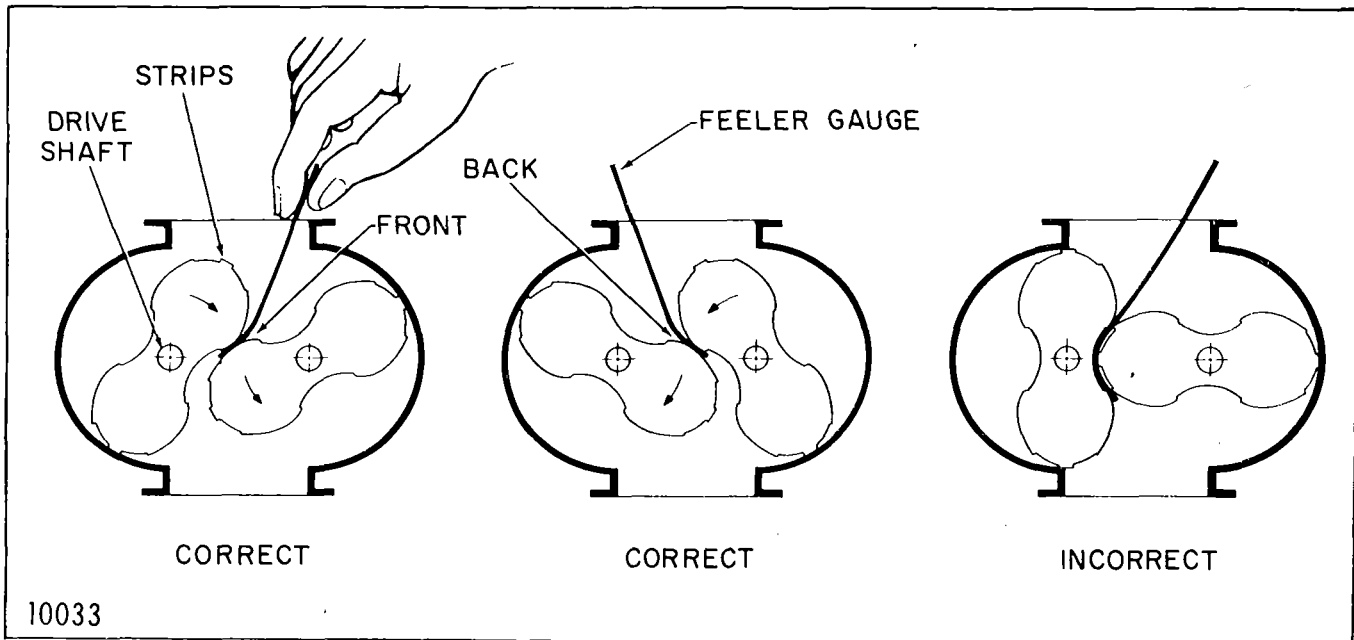

Figure 5 - Identification of Front and Back Impeller Clearances, and Method of Using Feeler Gauge
1. Drain all oil from the gearhouse by removing bottom plug (23). Remove gearhouse by taking out all cap screws (18) in its flange. It may be necessary to bump the sides with a wood block or mallet to break the flange joint.
7. Rotate the impellers to make sure they do not bump, then measure front and back lobe clearances with feelers when impellers are in positions shown in Figure 5. These two clearances should be equal when the impellers are properly "timed" and should be within the theoretical limit given in Table 5.